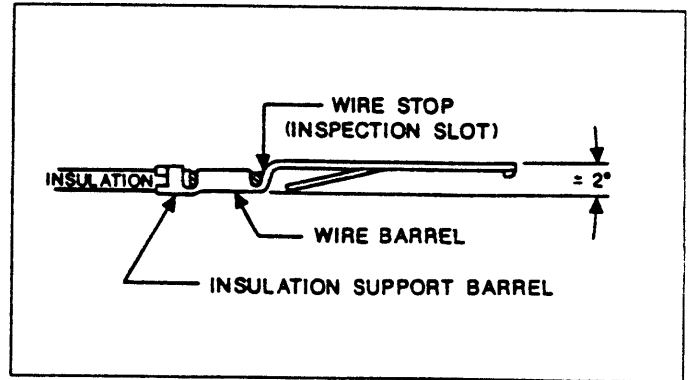

FIGURE 4
2. Check that wire is properly positioned in contact (See Figure 4).